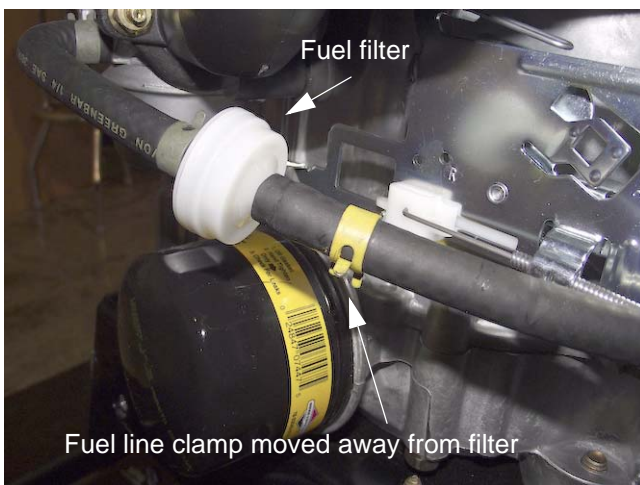

Figure 2.6
5. Using pliers slide the fuel line clamp away from the fuel filter. See Figure 2.6.